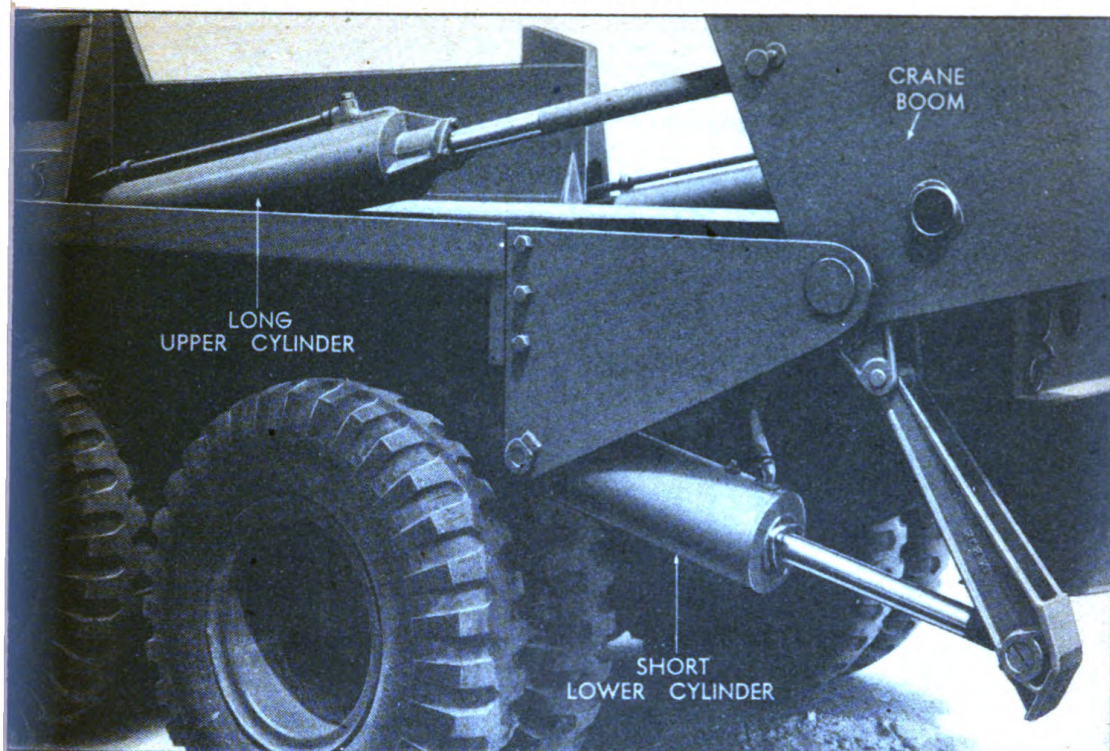

Figure 12. Long Upper and Short Lower Hydraulic Cylinders of Crane
(6) Four hydraulic cylinders operate the crane and are shown in Figure 12. The two long upper hydraulic cylinders control the boom while the two short lower ones act as boosters when the boom is in the extended position. The normal capacity of the crane with all four cylinders operating is 8,000 pounds.